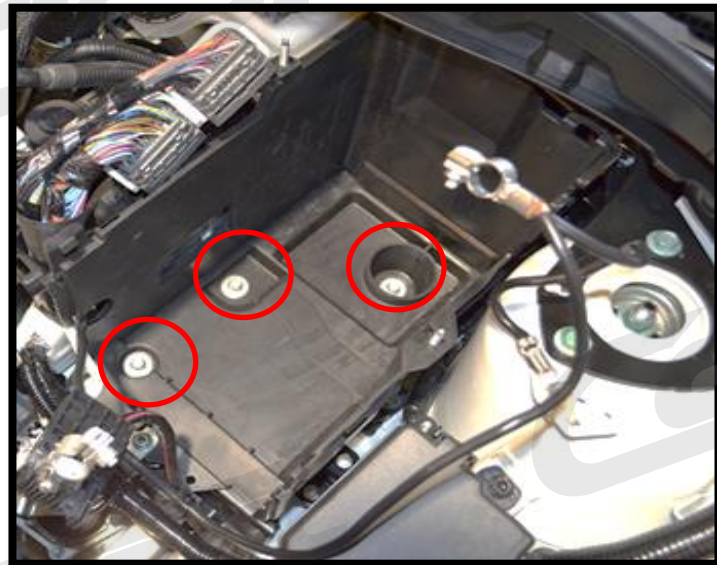

Figure 2e
- g) **Remove the battery box.** Remove the three 10mm bolts in the bottom of the box, and remove the battery box and ECU (red circles Figure 2e).